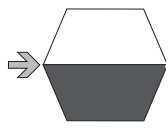

Fig. 2
6. Fill the gearbox with oil to the specified level according to fig. 2. Check for leaks. See section 3.2 for required amount of oil and positioning of oil level window.